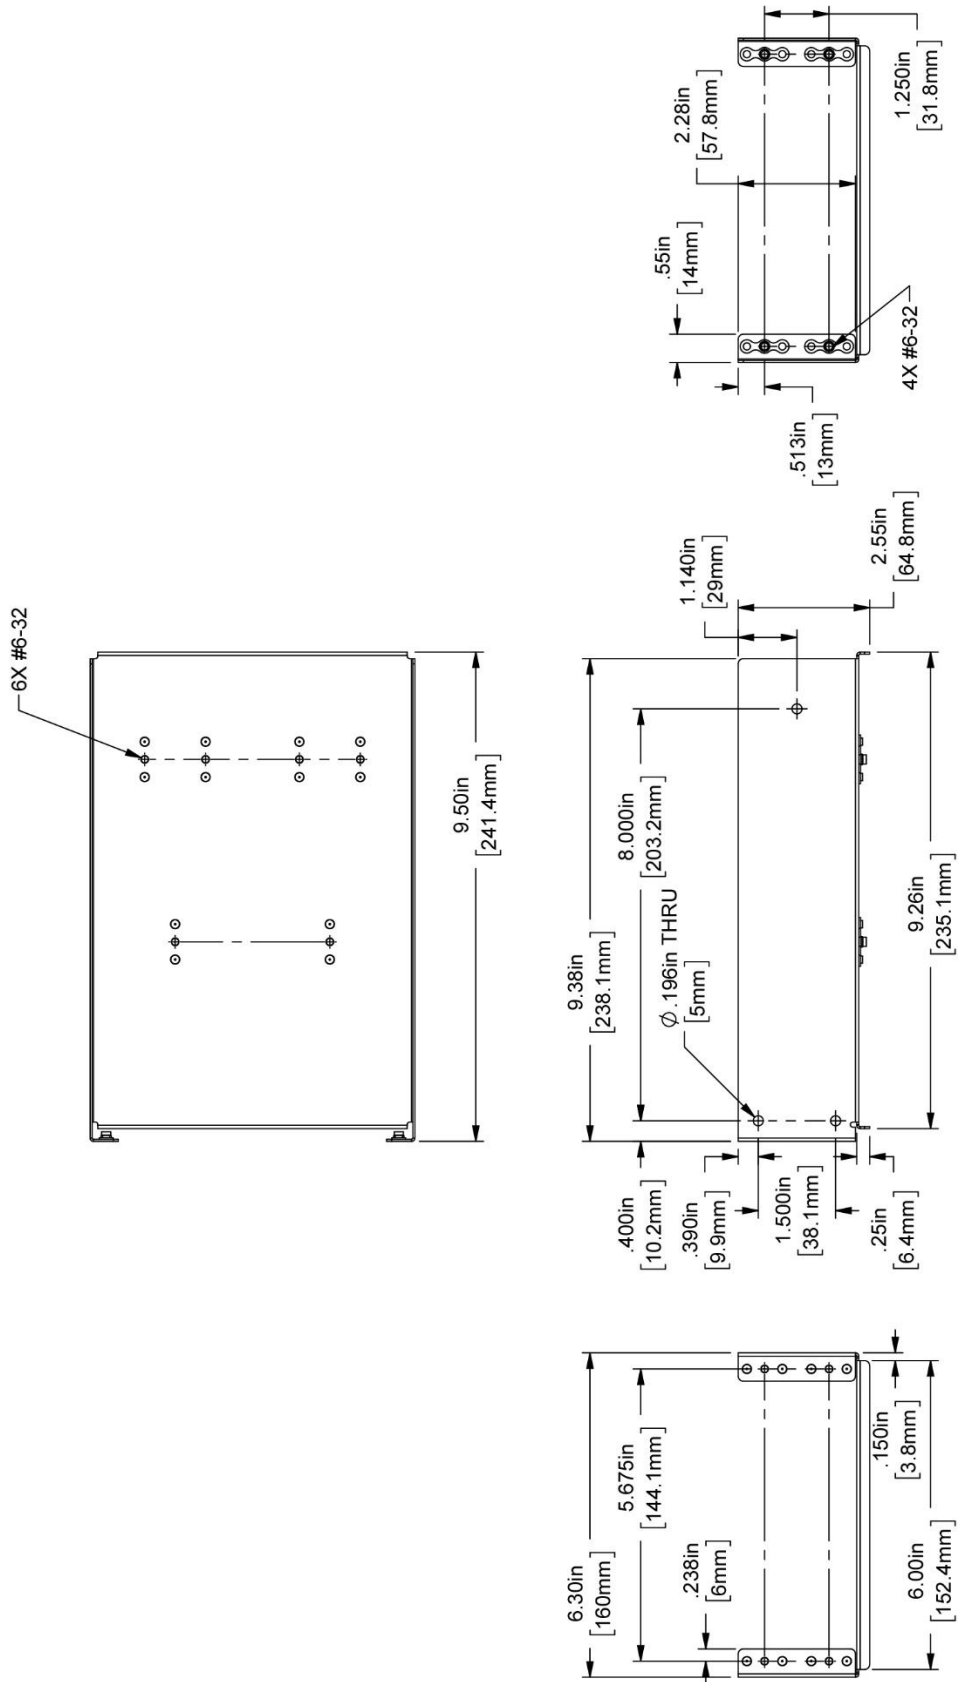

Figure 25: Dimensions – COM/XPNDR Radio Stack Module Mounting Kit
1. If needed, cut an opening in instrument panel using Figure 25 as a guide.